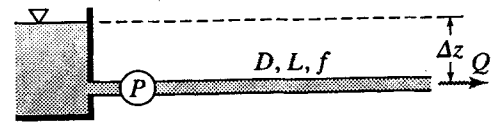

Figure P15.17
15.17 A pump whose characteristics are shown in Fig. 15.8, operating at 1450 rpm, is placed in a 24-in-diameter pipe ( $f = 0.032$ ) of length 5000 ft (Fig. P15.17). The discharge end of the pipe is 30.0 ft lower than the water-surface elevation in the reservoir. The water discharges freely into the atmosphere.